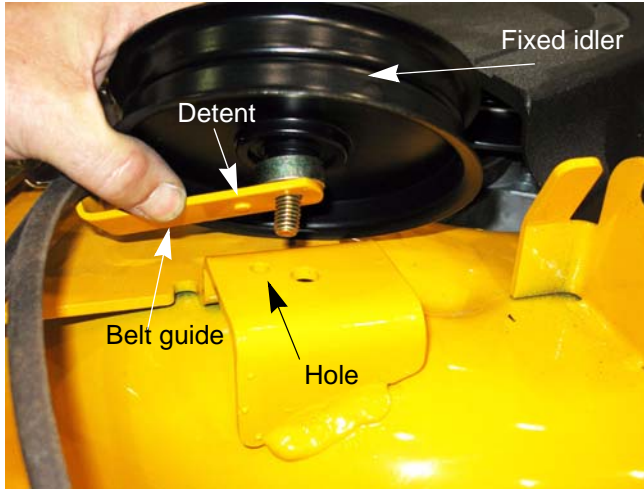

Figure 7.10
5. Bolt the pulley to the deck, ensuring that the detent on the belt guide seats in the hole in the deck. See Figure 7.10.